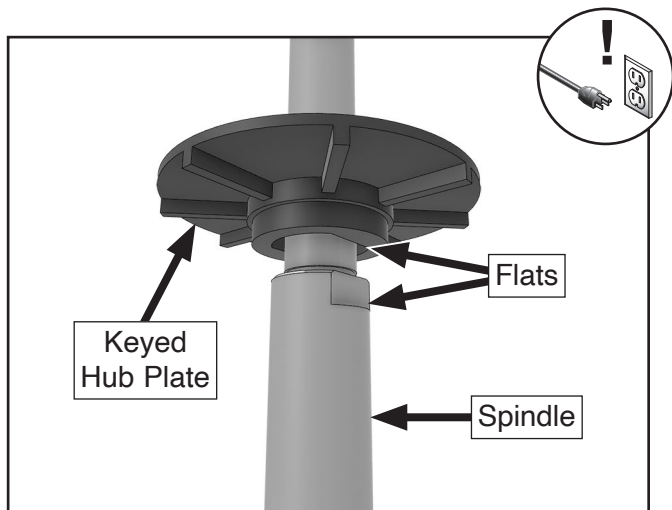
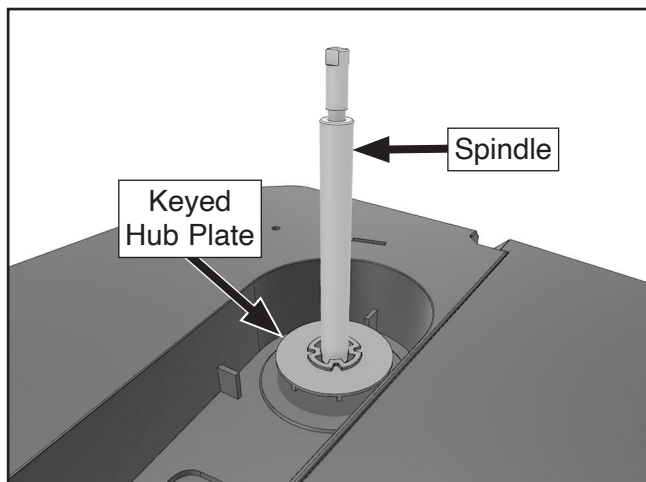

Figure 21. Keyed hub plate flats aligned with spindle shaft base flats (table removed for clarity).
Figure 22. Keyed hub plate fully seated on spindle.
3. Install keyed hub plate on spindle shaft, and rotate plate until flats shown in **Figure 21** align with spindle shaft base flats and plate fully seats (see **Figure 22**).